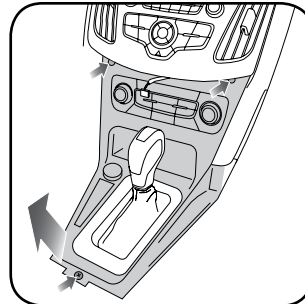

Fig. 1.3
3. Remove three (3) phillips screws holding the shifter surround and climate controls. (Fig. 1.3)